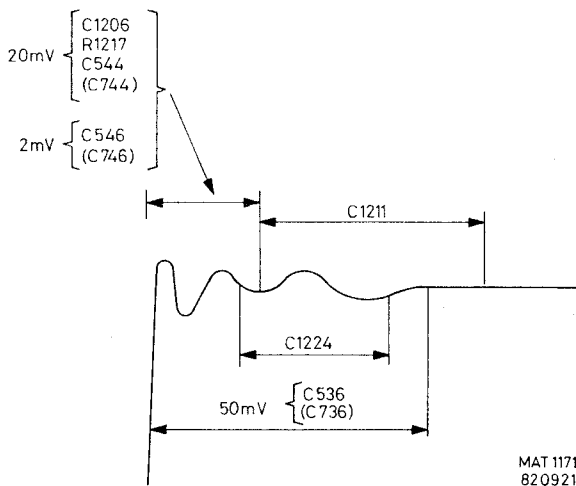

Fig. 5.6. Adjustment of HF square-wave response
- Apply to X2 (A) a square-wave signal at 120mV, frequency 1MHz and with a rise-time $\leq 1\text{ns}$.
- Using C1211 and C1244 (fig. 5.2.) adjust the square-wave response as straight as possible (see fig. 5.6.).
- Using C1206, R1217 and C544 (fig. 5.2.) adjust the square-wave response as straight as possible (fig. 5.6.).
- Apply to X2 (A) a square-wave signal of 300mV, frequency 1MHz and with a rise-time \leq 1ns.
- Using C536 (fig. 5.2.) adjust the square-wave response as straight as possible (see fig. 5.6.).
- Apply (via a 20dB attenuator, if generator output voltage is too high) to X2 (A) a square-wave signal of 12mV, frequency 1MHz and with a rise-time \leq 1ns.
- Using C546 (fig. 5.2.) adjust the square-wave response as straight as possible (fig. 5.6.)
- Apply to X4 (B) a square-wave signal of 120mV, frequency 1MHz and with a rise-time \leq 1ns.
- Using C744 (fig. 5.2.) adjust the square-wave response as straight as possible (fig. 5.6.)
- Apply to X4 (B) a square-wave signal of 300mV, frequency 1MHz and with a rise-time \leq 1ns.
- Using C736 (fig. 5.2.) adjust the square-wave response as straight as possible (see fig. 5.6.).
- Apply to X4 (B) a square-wave signal of 12mV, frequency 1MHz and with a rise-time \leq 1ns (via a 20dB attenuator, if generator output voltage is too high).
- Adjust with C746 (fig. 5.2.) the square-wave response as straight as possible (fig. 5.6.).
5.5.5.5. Square-wave response channel A (B) invert
- Depress A (B) of S1.
- Depress A (B) of S23.
- Apply a square-wave signal, frequency 1MHz, rise-time \leq 1ns to input A (B).